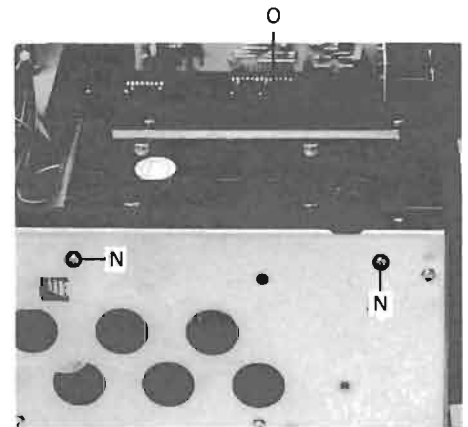

Fig. 2.9
2.11 Removing the power supply (Fig. 2.9)